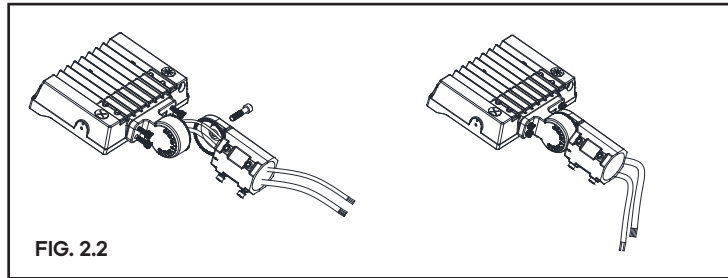

FIG. 2.2
STEP 3. Run the rubber wire through the other holder and tighten it with the hexagon socket screw. (Be careful not to scratch the wire). **FIG. 2.2**